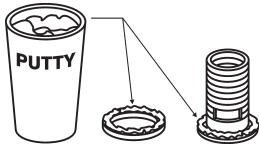

figure 3
6. Apply a bead of clear silicone or plumbers putty around the Drain Body and pass it through the drain hole (figure 3).
7. Apply plumbers putty to the Rubber slip gasket and slide it over the bottom of the Drain Body (figure 3).